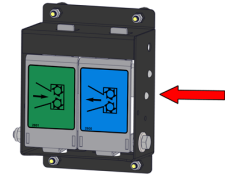

Figure 15 - Reverse Feed Control
6. Press the **BLUE** Reverse Feed Control (Figure 15).